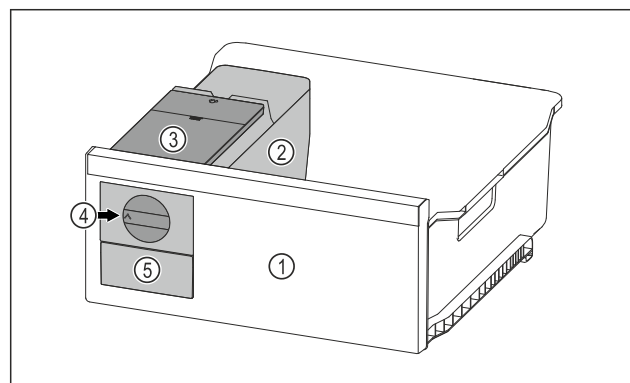

Fig. 149 Example illustration
- Turn the rotary knob Fig. 149 (4) clockwise as far as it will go.
- Ice cubes fall from the ice cube tray into the ice cube drawer Fig. 149 (5).